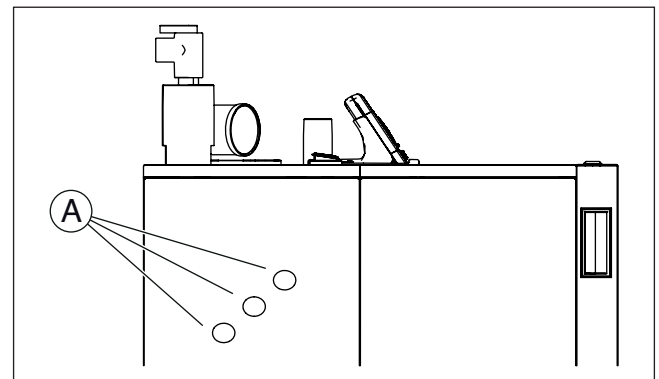

Fig. 17
The power supply cable can be inserted into the boiler using one of the six knock out holes (A) on the sides as shown in Fig. 17.